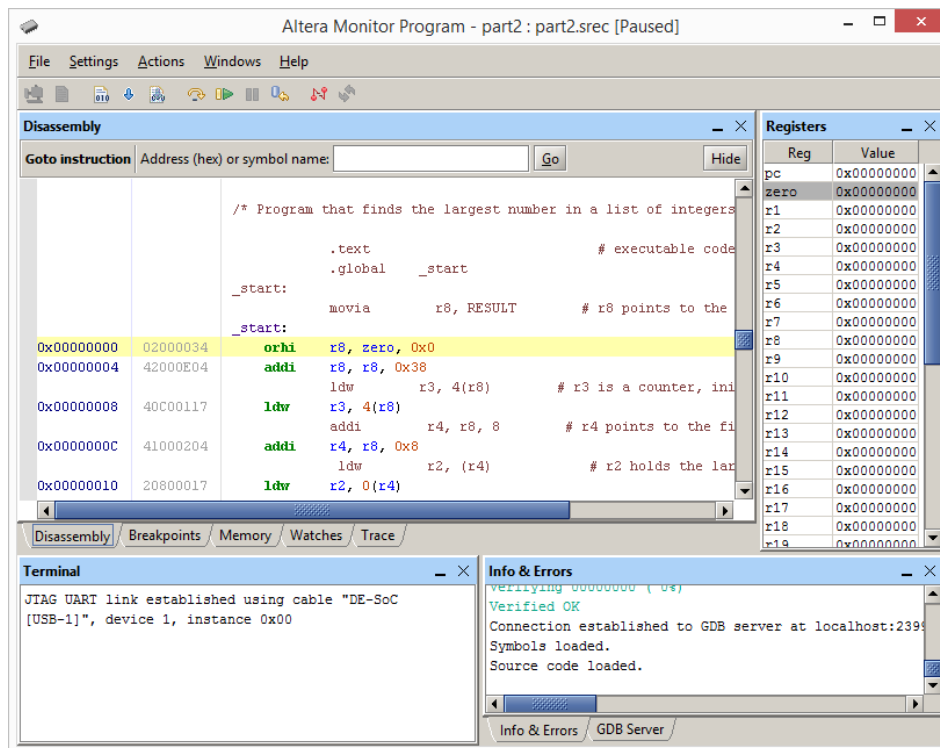

Figure 10: The disassembled view of the program in Figure 9.
4. The Monitor Program will display a disassembled view of the machine code loaded in the memory, as indicated in Figure 10. Note that the pseudo instruction **movia r8, RESULT** from your source code has been implemented by using the two instructions **orhi r8, zero, 0x0** and **addi r8, r8, 0x38**. These instructions load the 32-bit address of the label **RESULT**, which is 0x00000038, into register r8.